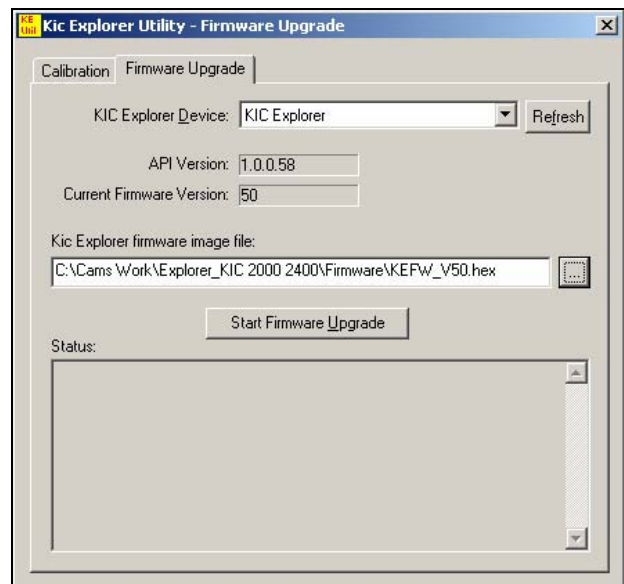

Figure 176
4. When you have selected the firmware file it will be displayed in the *KIC Explorer Firmware Image File* field. See Figure 176.
5. Select the “Start Firmware Upgrade” button to begin the flash process. See Figure 176.